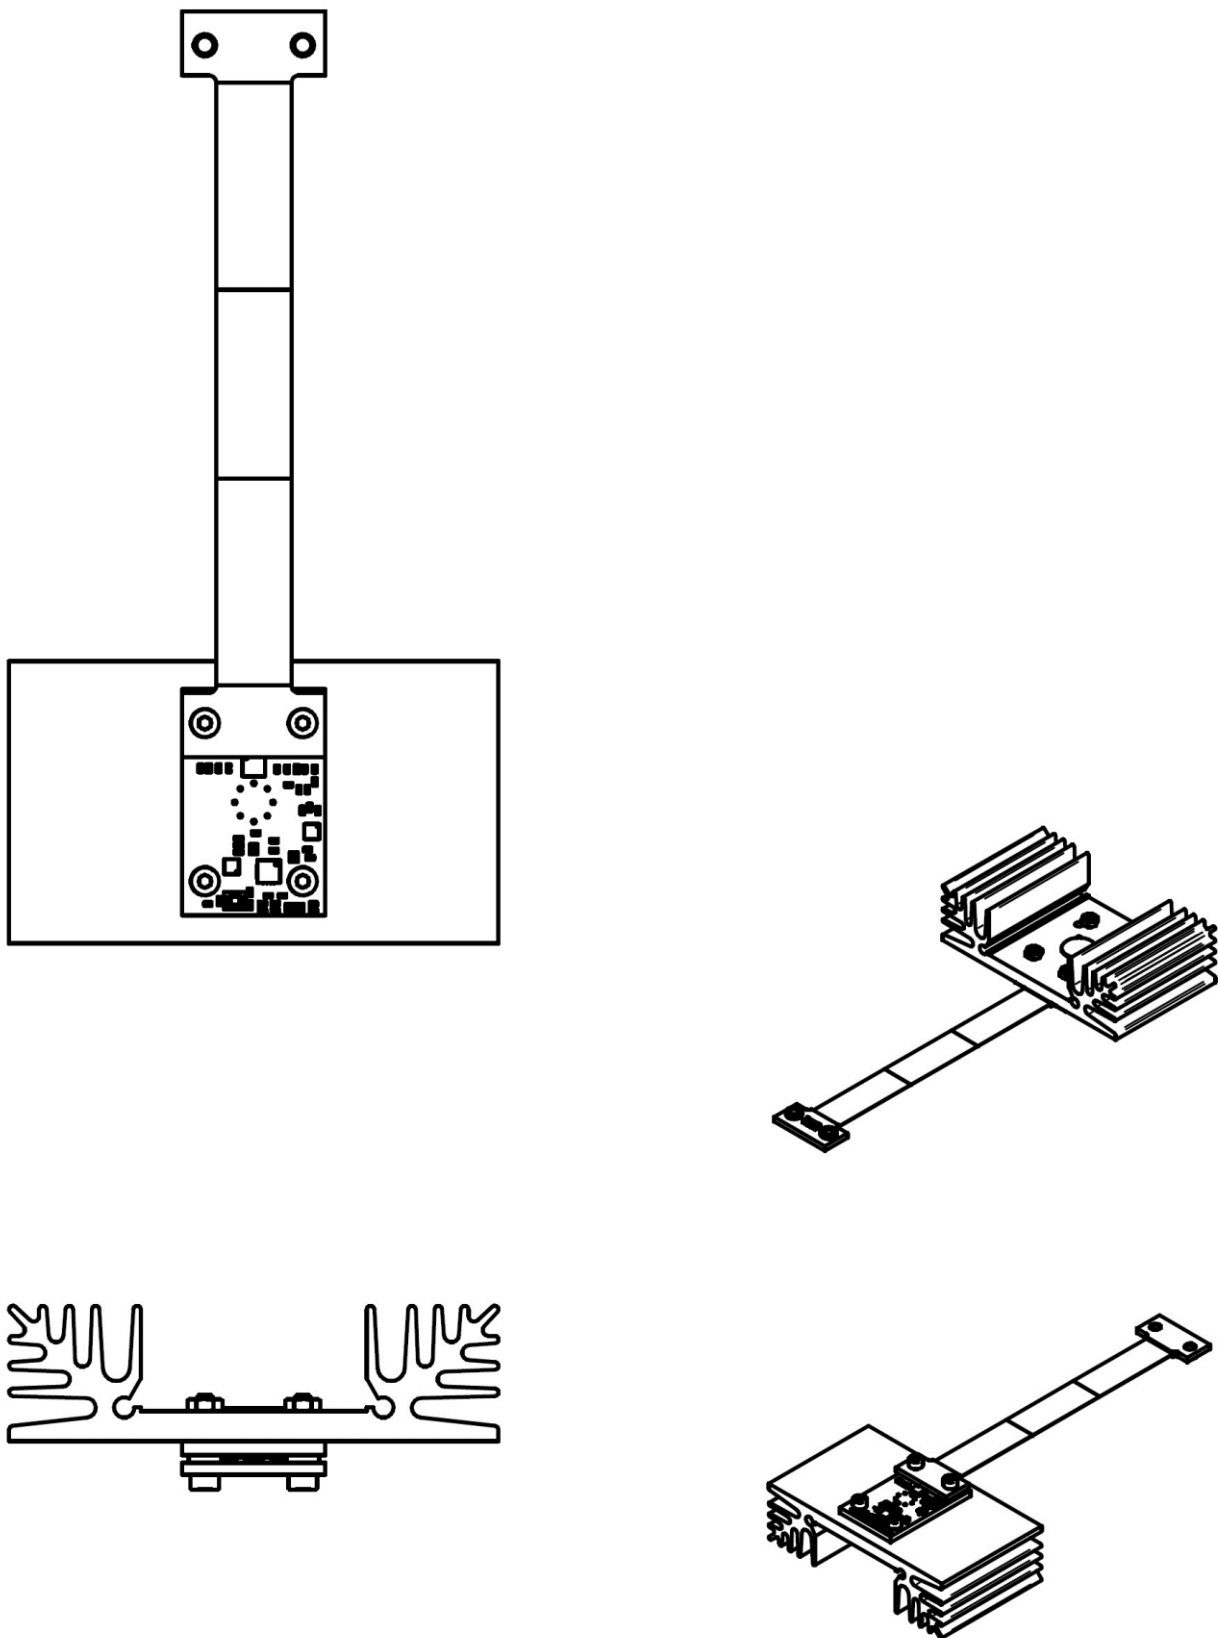

FIGURE 22. Example application of AMS3140-01/AMS6140-01 with flexible PCB
- Semi-flexible PCB. Receptacle *Amphenol 101R014FB110* has to be placed on the rigid part and the flexible part can be used to connect signals and power supplies to another PCB (FIGURE 22).